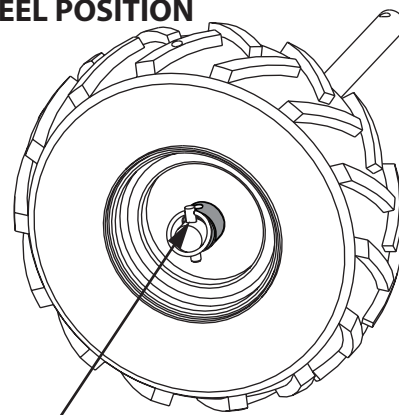

FIGURE 2
- a. Attaching loose wheels in box onto machine with wheel lock pins in free-wheel position. Slide wheel all the way onto the axle and insert lock pin through the axle hole only. **SEE FIGURE 2**